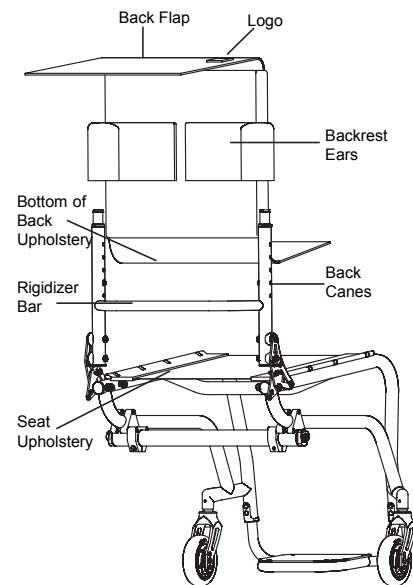

Figure 55
1. Lift the back flap to expose the backrest ears. See Figure 55.